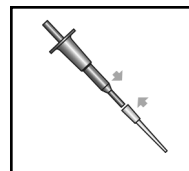

Figure 1
- Place a yellow pipette tip firmly onto the end of the selected minipet (figure 1).